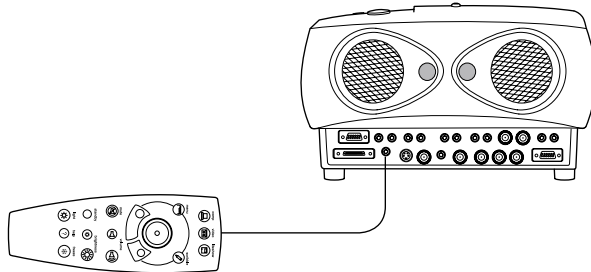

FIGURE 14
- 1 If your video player uses a round, one-prong composite video connector, you'll need only the A/V cable that shipped with the projector. (Refer to Figure 14 on page 16 to see the connector types.)